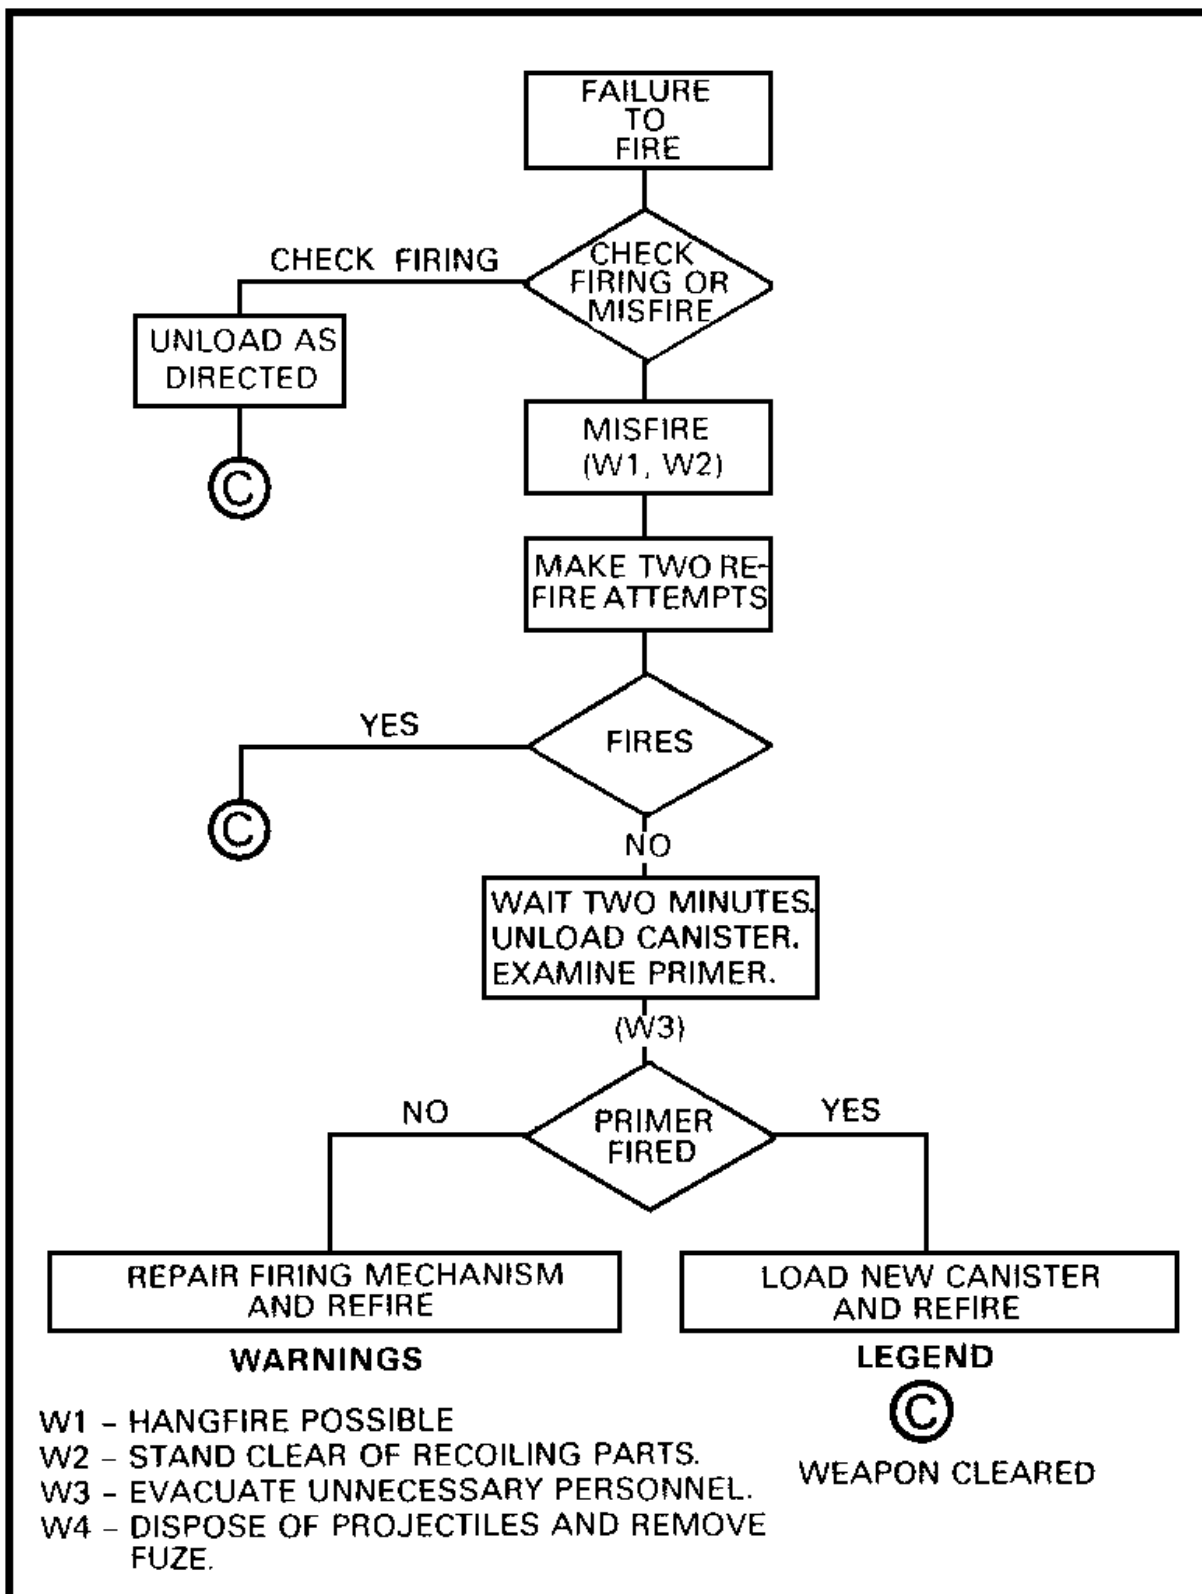

Figure 5. Misfire procedures for weapons firing semifixed ammunition--cold tube.
- Notify direct support (DS) maintenance and the explosive ordnance detachment (EOD).
(1) Procedures after failure to fire--cold tube (Figure 5). After the howitzer fails to fire, notify (FDC) of the misfire. Actuate the firing mechanism two more times in an attempt to fire the piece. If the weapon still fails to fire, the chief of section reports to the executive officer MISFIRE NUMBER (so-and-so). The chief of section then waits 2 minutes from the last attempt to fire before he opens the breech, removes the cartridge case, and inspects the primer to see if it has been dented. If the primer is dented, replace the canister with a new one and fire the weapon. If the primer is not dented, the firing mechanism should be repaired. If the executive officer does not wish to fire the round after the 2-minute waiting period, the projectile must then be removed from the tube. Using the bell rammer to avoid damaging the fuze, the cannoneer pushes the round out the rear of the tube. The breechblock should be closed and rags should be stuffed into the powder chamber to cushion the shock of the projectile. A common cause of a misfire with the 105-mm howitzer is that the breechblock is not fully closed. This will cause the firing pin to miss the primer. Broken or bent firing pins will cause misfires, as will wet powder or a faulty primer.